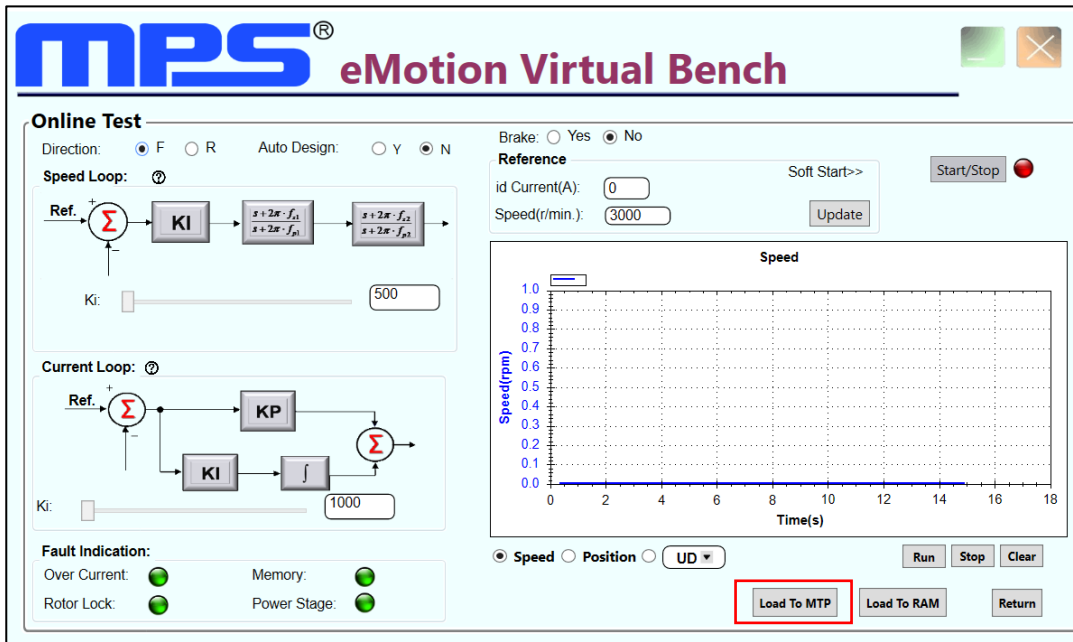

Figure 12: Write MTP
2. Enter the Online Test window, then click the “Load to MTP” button (see Figure 12).